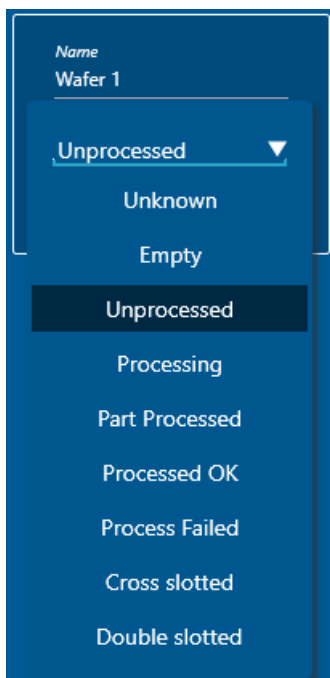

Figure 4-9 Wafer status dropdown list
- c) Enter a name for the wafer. You can select the status of the wafer from the drop-down list, see Figure 4-9, or use the default value (Unprocessed).